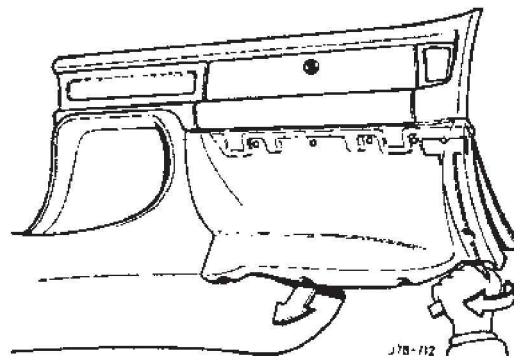

FIG 3
**Note:** On vehicles fitted with a steel armature, the tool **must** be inserted between the dash liner and the steel armature (Fig. 3).